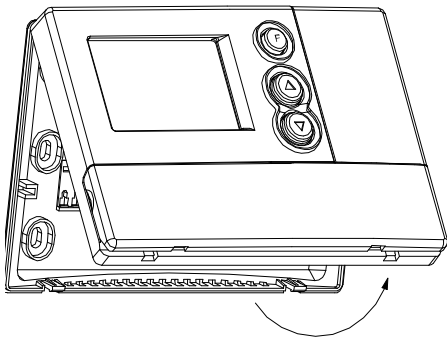

Figure 2
- Remove the wallplate from your thermostat by pressing the release tab on the bottom of the thermostat. See Figure 2.
• Insert the tabs on top of the thermostat body into the slots at the top of the wallplate. Press the bottom of the thermostat body into the snap on the bottom of the wallplate. Refer to Figure 2. (NOTE: Do not force the thermostat onto the wallplate, as the terminal pins may be damaged. If it does not snap properly, the thermostat may not work.)